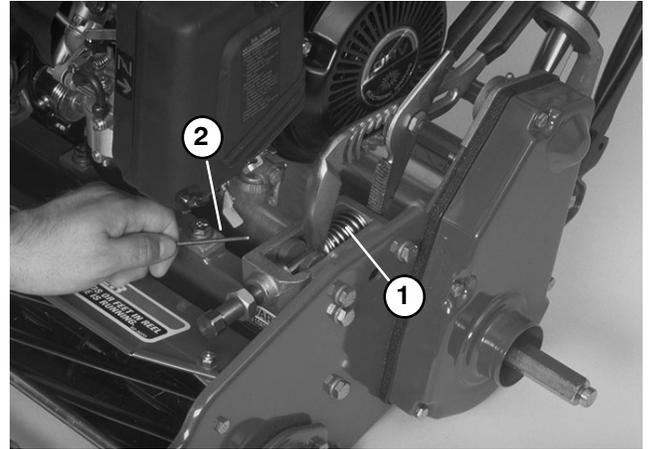

Figure 26
Use caution when removing the bedbar. Adjusting screw springs (Fig. 26) are under tension and could release suddenly.
3. Compress spring with a pair of channel lock pliers. Insert a pin to hold the spring in position (Fig. 26).